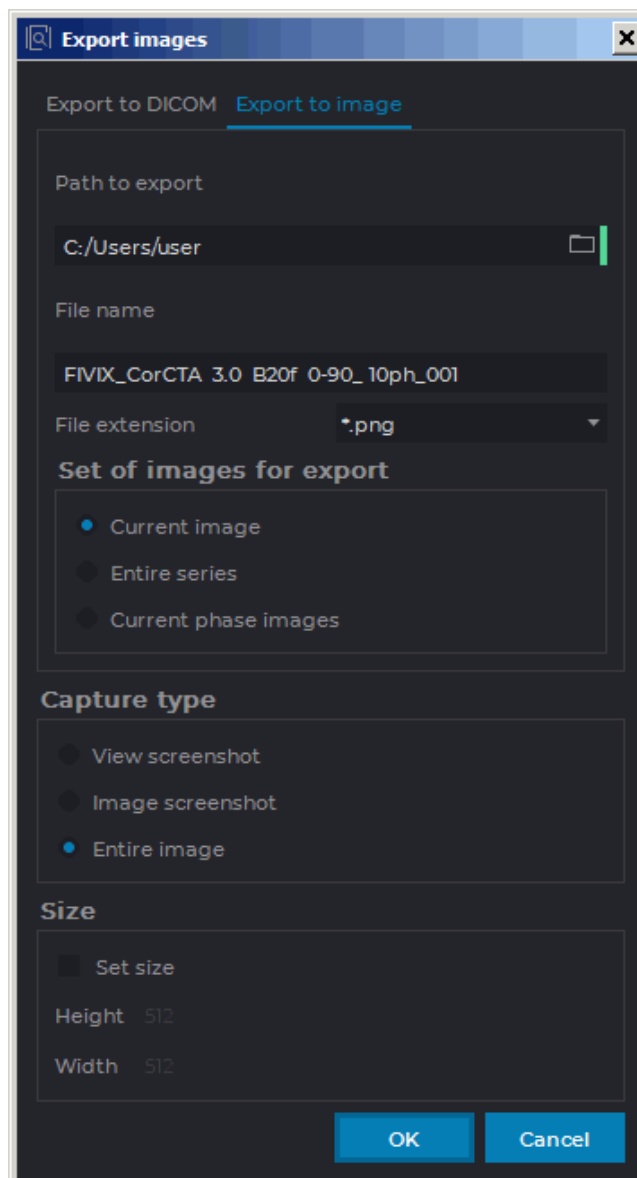

Figure 2.81: Export image to file window
2. Select the **Export to image** tab. The export window will look as shown in Fig. 2.81.